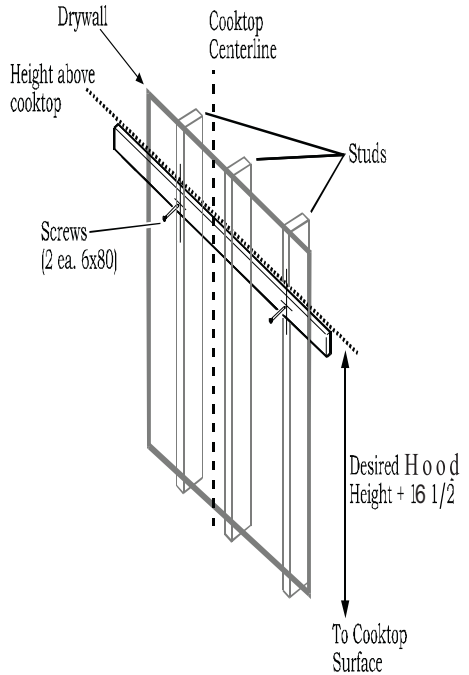

Figure 6
4. Find studs behind the drywall by tapping the wall or using a stud finder. Locate one stud on either side of the cooktop centerline to use for mounting the wooden bracket as shown in Figure 6.